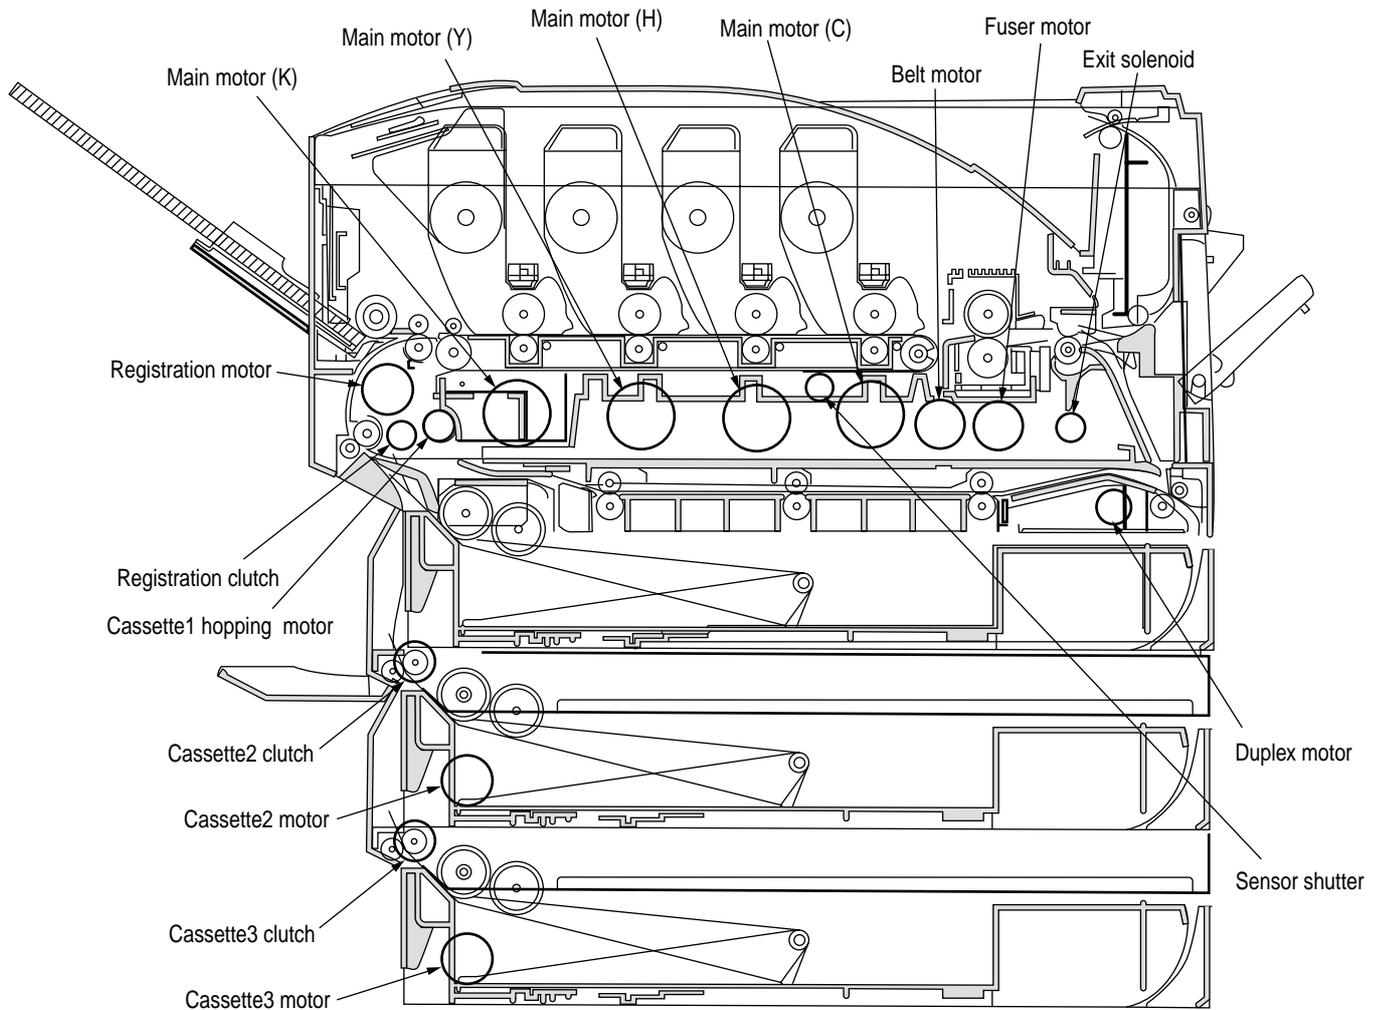

Figure 3-3
3. Pressing the ③ key starts the test, the unit name blinks, then the corresponding unit is driven for 10 seconds (refer to Figure 3-3).